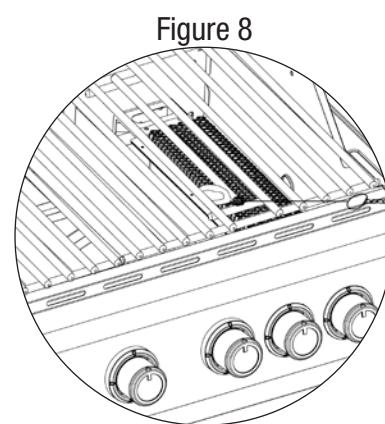

Figure 8
3. Infrared sear burner control knob must be in the Δ (OFF) position. (Figure 8)
7. If igniter does not light burner, use a lit match secured with the lighting rod provided to light burners manually. Access the burners through the cooking grid. Position the lit match near side of the burner. (Figure 8)
3. Infrared back burner control knob must be in the Δ (OFF) position. (Figure 8)